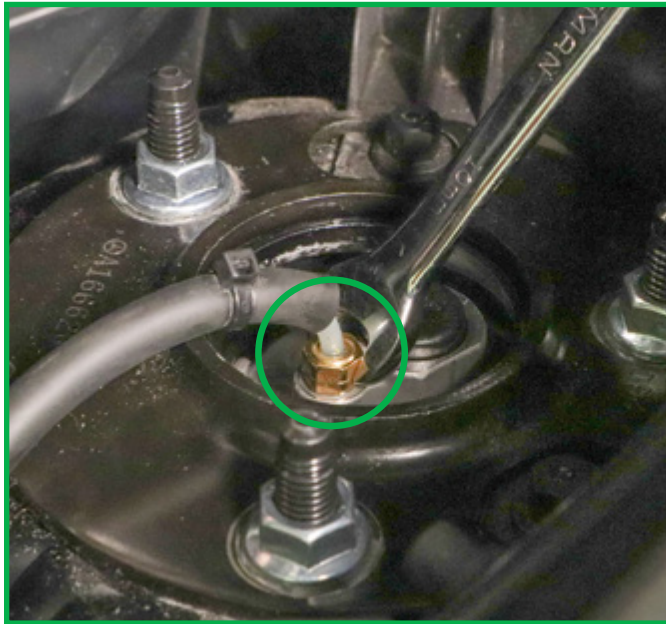

FIGURE 3
5. Remove the air line fitting. (Figure 3)